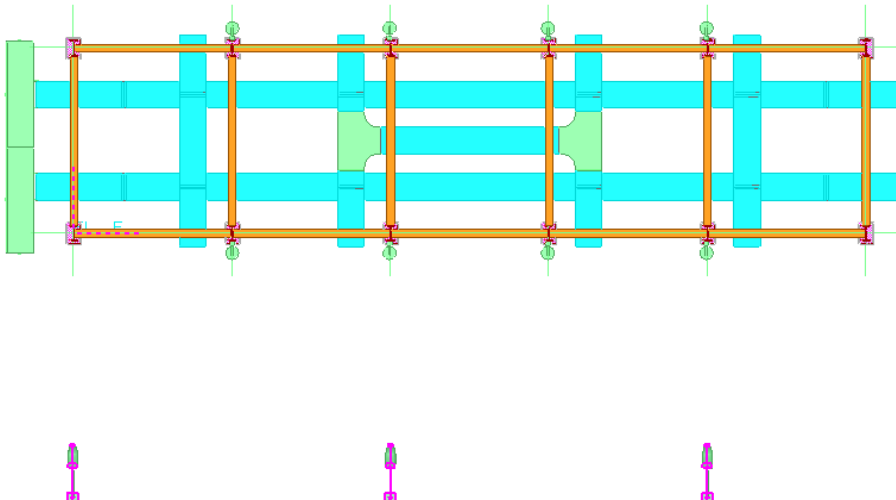

Figure 12: Plan View - Selected Objects
36. Select the four street lighting fixtures from the graphic view that you need to mirror copy, as shown in Figure 12.